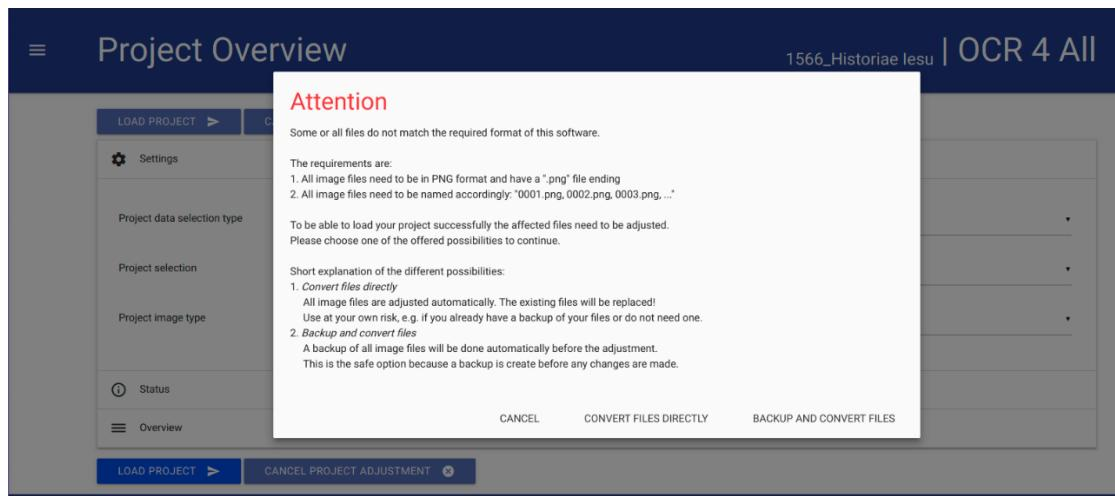

fig. 3. Data conversion request.
- Following this initial set up, click on ‘load project’ in order for the book in question to be uploaded to the OCR4all platform. Seeing as OCR4all only accepts certain file designations and formats (i.e. 0001.png etc.), a data conversion might be requested which can be directly carried out in OCR4all (*fig. 3*).